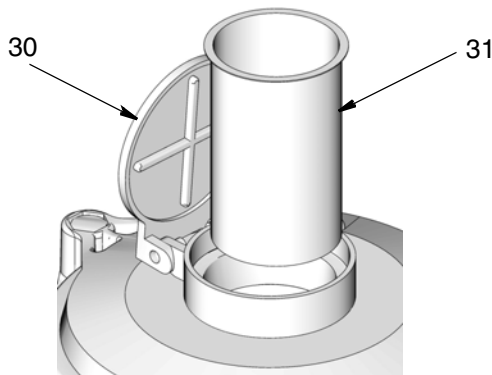

FIG. 2: Oil Reservoir
- The oil reservoir has a fill cap (30) and screen (31), located on top (FIG. 2).